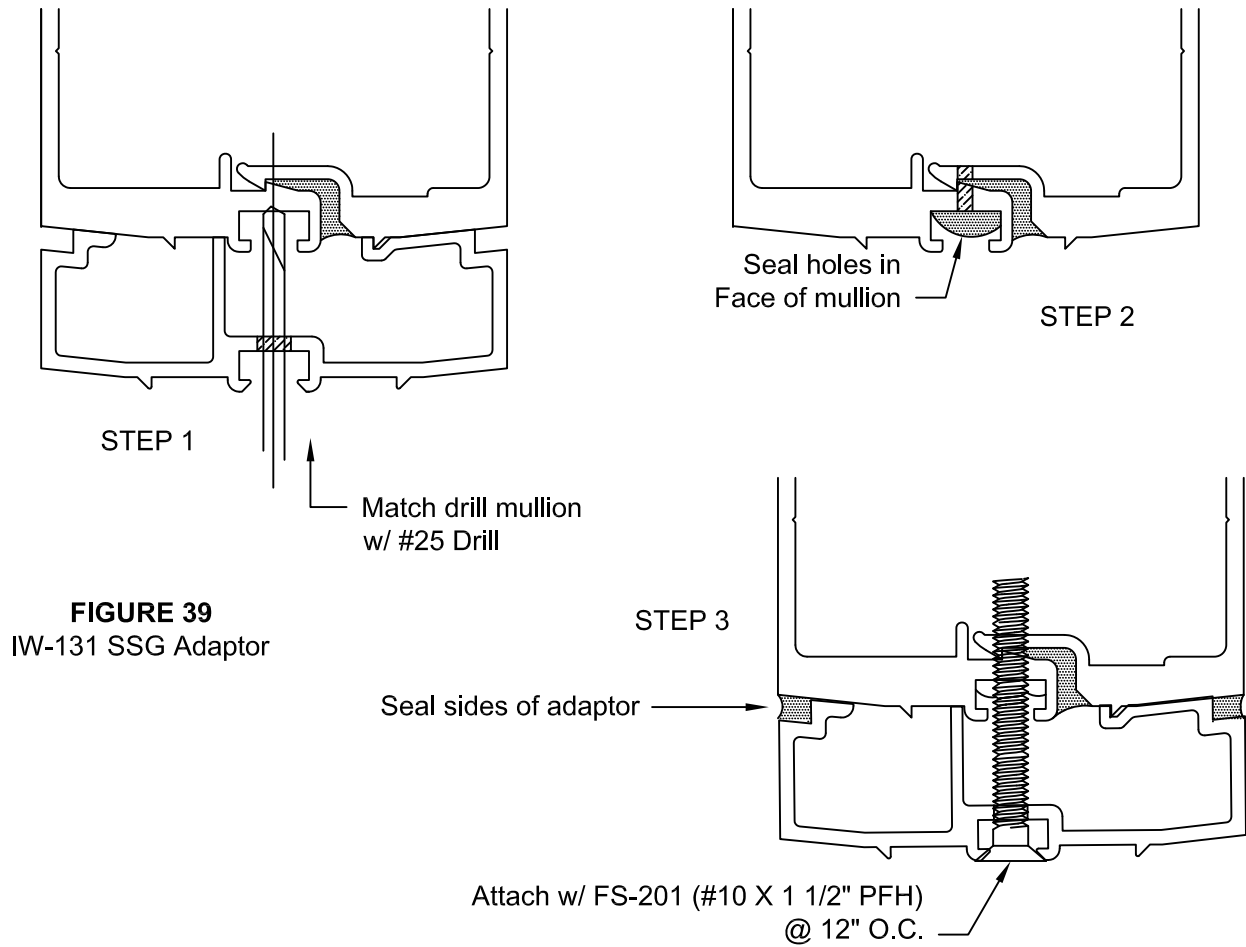

FIGURE 39
- T.2 Glazing adaptor at SSG vertical mullions will be attached using FS-201 (#10 x 1 1/2" pfh) fasteners at 12" on center. Mullion will be match drilled using #11 (.191Ø) drill bit. Holes in mullion must have sealant injected into the tap holes just prior to attaching the adaptor to the mullion. SEE FIGURE 39